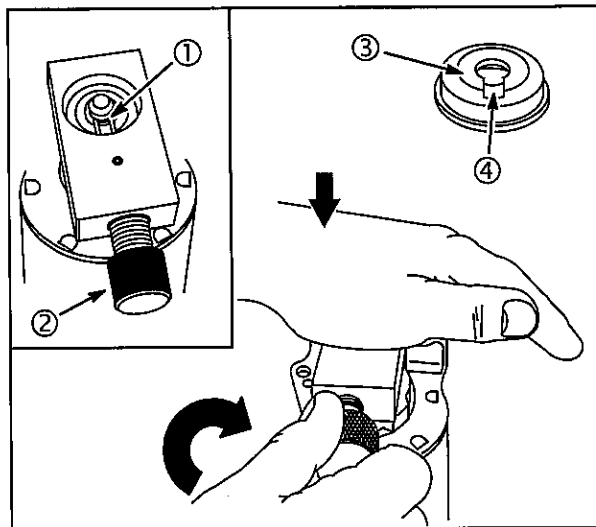

Fig. 7
1. Place the counterbored side of C-ring Remover #19436 (2) over retainer. Align drive pins (1) with open end of C-ring, Fig. 7.